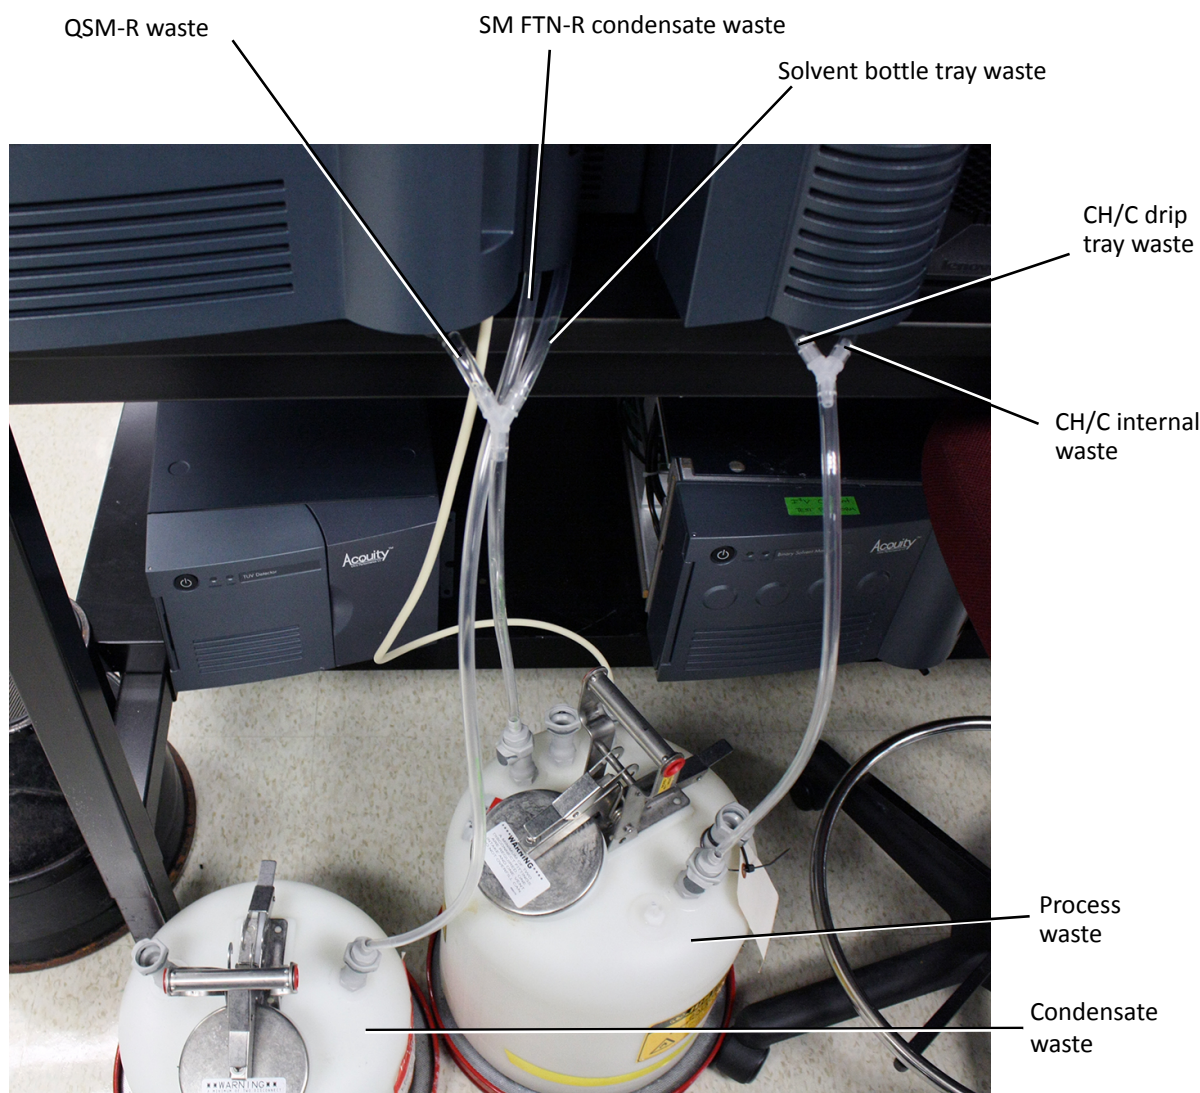

Figure 12 - Connecting waste tubing using Y connectors
Tip: When installing waste tubing, make sure you use the provided Y connectors to properly route the tubing to a process and an optional condensate waste container (Figure 12).
7. Connect a section of Tygon tubing from the rear of the solvent bottle tray, route it downward toward the front of the instrument stack, and then cut it and connect it to a Y connector port (Figure 12).
8. Connect a short section of Tygon tubing from the waste port at the bottom of the QSM-R to the open port of the Y connector (Figure 12).
e. Connect the two CH/C waste tubing sections to a Y connector. See Figure 12.
11. Use another section of Tygon tubing to connect the combined CH/C waste to the process waste container. See Figure 12.